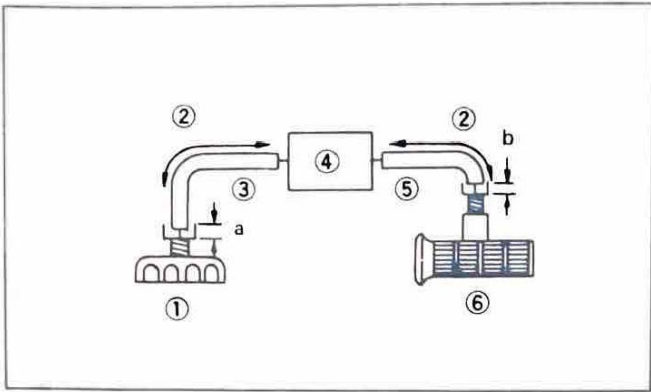

Fig. 51
3. Throttle wire adjustment (Fig. 51)